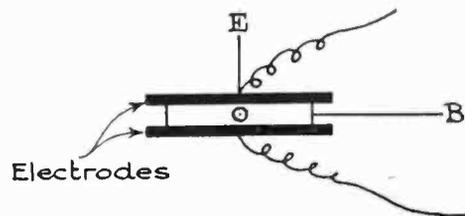
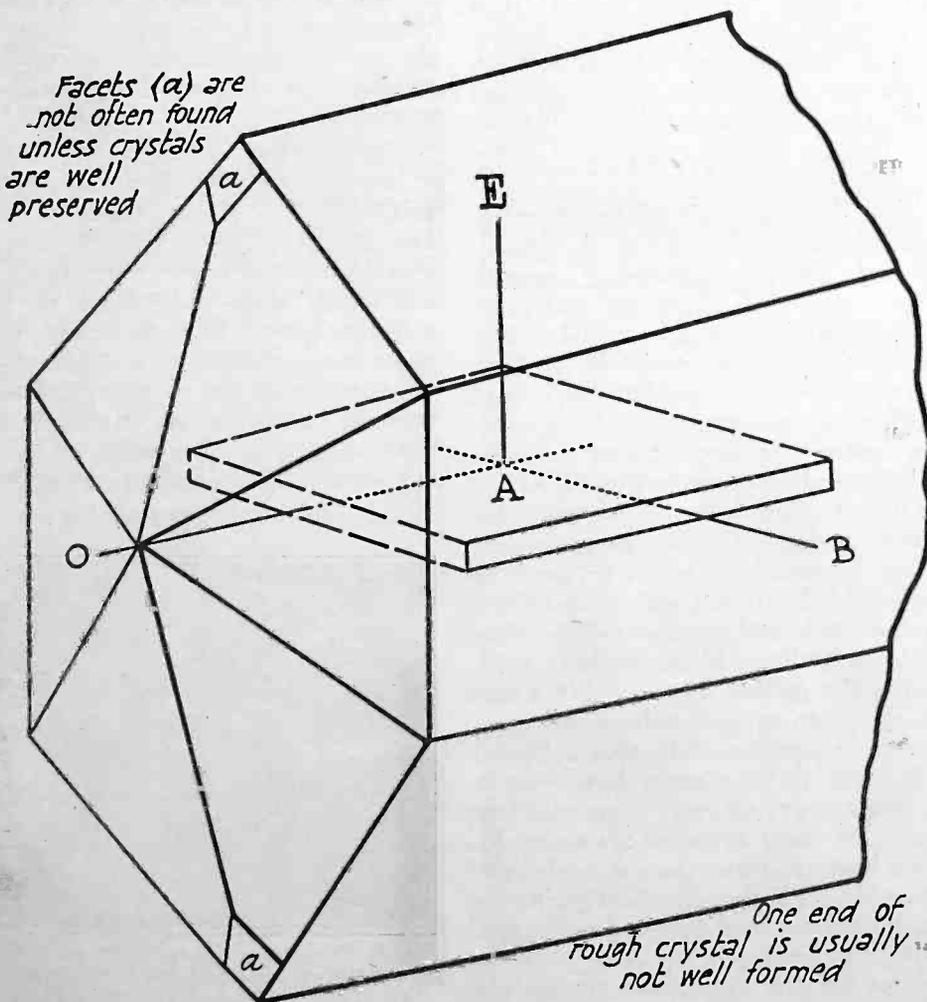

Fig. 3. Finished Crystal Between Electrodes.
Fig. 2. Orientation of Axes in Quartz Crystal.
shown in Fig. 2. When these are determined a number of sections parallel to that shown in the plane  $OAB$  may be cut from a single crystal.
pendicular to the two other axes. So that the plane  $AOB$  is any plane perpendicular to  $EA$  or electric axis, the three axes being mutually perpendicular. Now, let us take the finished crystal out of the rough one of Fig. 2 and put it between two brass plates which will hereafter be called the *electrodes*. Fig. 3 shows the resulting arrangement together with the previous designation of axes. The  $OA$  axis is shown perpendicular to the plane of the paper. If experiments are performed with this combination and suitable measuring apparatus it is possible to prove experimentally the following laws: I. Compression along the electric axis results in charging the electrodes with equal and opposite charges of electricity. Stretching the crystal along the  $BA$  axis produces charges on the electrodes having signs corresponding to those of compression along the electric axis. Stretching the crystal along the electric axis also produces equal and opposite charges on the
(1) One end of the rough crystal should have the typical configuration shown in Fig. 2, or at least, should possess as much of this detail as possible. The left hand picture of Fig. 1 shows the well preserved end of a small rough crystal. The facets  $a$  of Fig. 2 are usually not to be found owing to the rough handling which the crystals receive at the mines.
(2) As many as possible of the six prismatic edges should be intact.
(3) The crystal should be as regular (faces and edges parallel) as possible.
(4) There should be as much freedom from interior flaws and non-uniform structure as possible. If it is difficult to examine the interior owing to unpolished surfaces, the application of a generous coating of any clear oil will greatly assist in this examination. Only the perfectly clear portion of any rough crystal can be used.